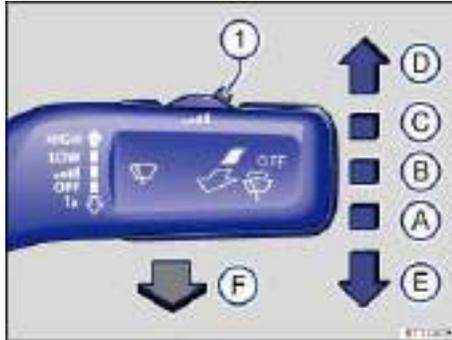

Fig. 87 Operating the front windshield wiper.
- Press the windshield wiper lever down briefly ⇒ fig. 87 (E) when the ignition is off.
Carefully fold the wiper arms back onto the windshield before driving! Switch the ignition on and press the windshield wiper lever down briefly ⇒ fig. 87 (E). The wiper arms move back to their original position.